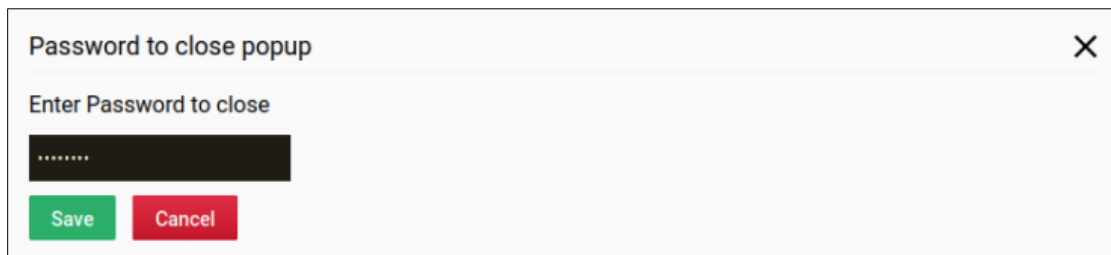

Figure 15: Close Pop-up Screen Password Requirement
- If you wish to close the pop-up while startup is still running, click the X in the upper right corner. A **Password to close popup** screen appears. Enter a password (Figure 15) to close the screen (only certain user roles have permission to close this screen).